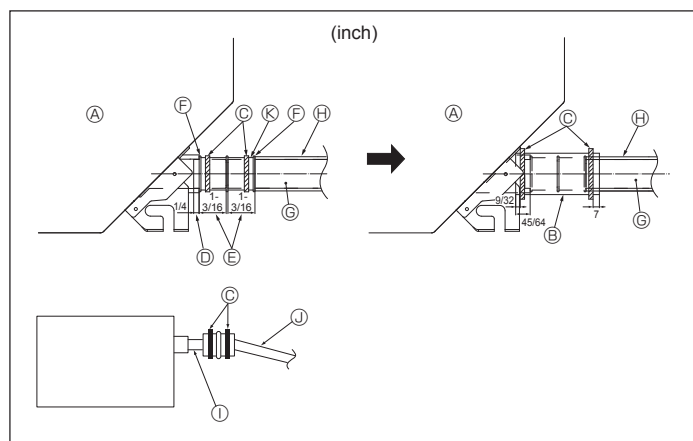

Fig. 5-2
1. Connect the drain socket (supplied with the unit) to the drain port. (Fig. 5-2) (Fix the tube using PVC adhesive then secure it with a band.)